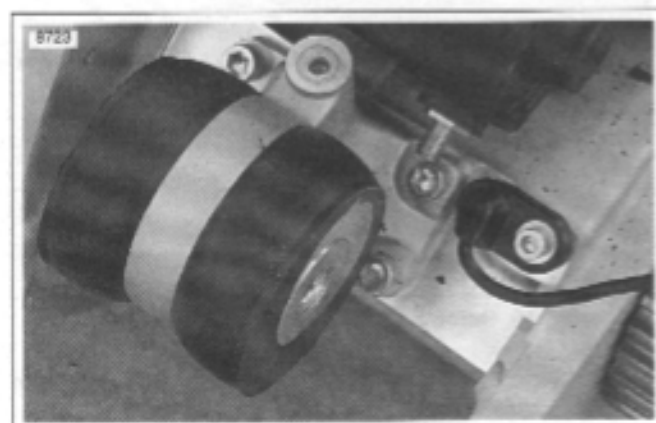

Figure 6-44. Rear Isolator Assembly
13. See Figure 6-44. Remove rear isolator assembly by removing the forward two fasteners first and then the two